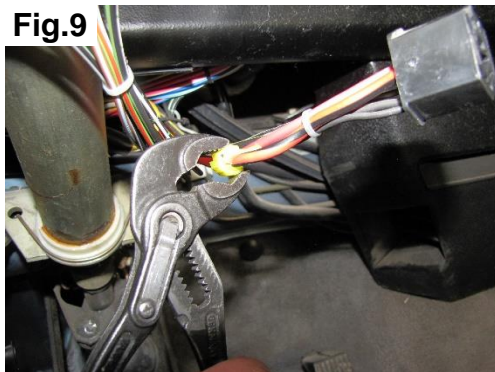

Fig.5
- a. For campers, route wire up though corrugated tube into main battery compartment. (Fig.5)